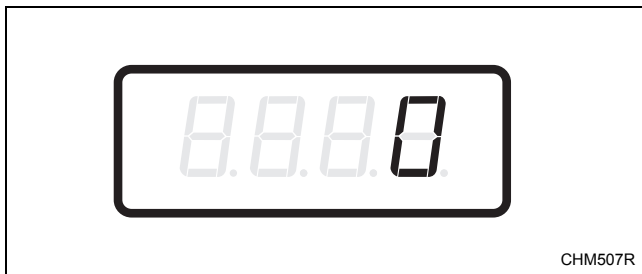

Figure 12
4. When “AtS7” appears in the display, press the START (enter) keypad. There are five digits in the Vend Price #7. The fifth digit will appear in the display and will flash one second on, one second off. Refer to *Figure 12*.